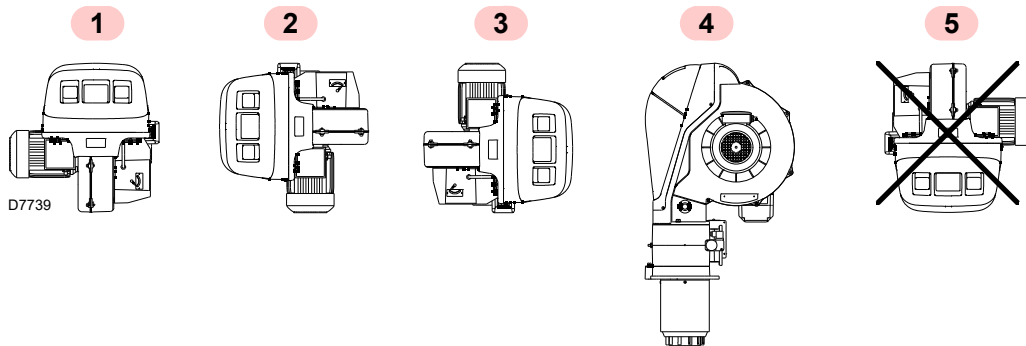

Fig. 6
- The burner is designed to operate only in positions **1**, **2**, **3** and **4** (Fig. 6).